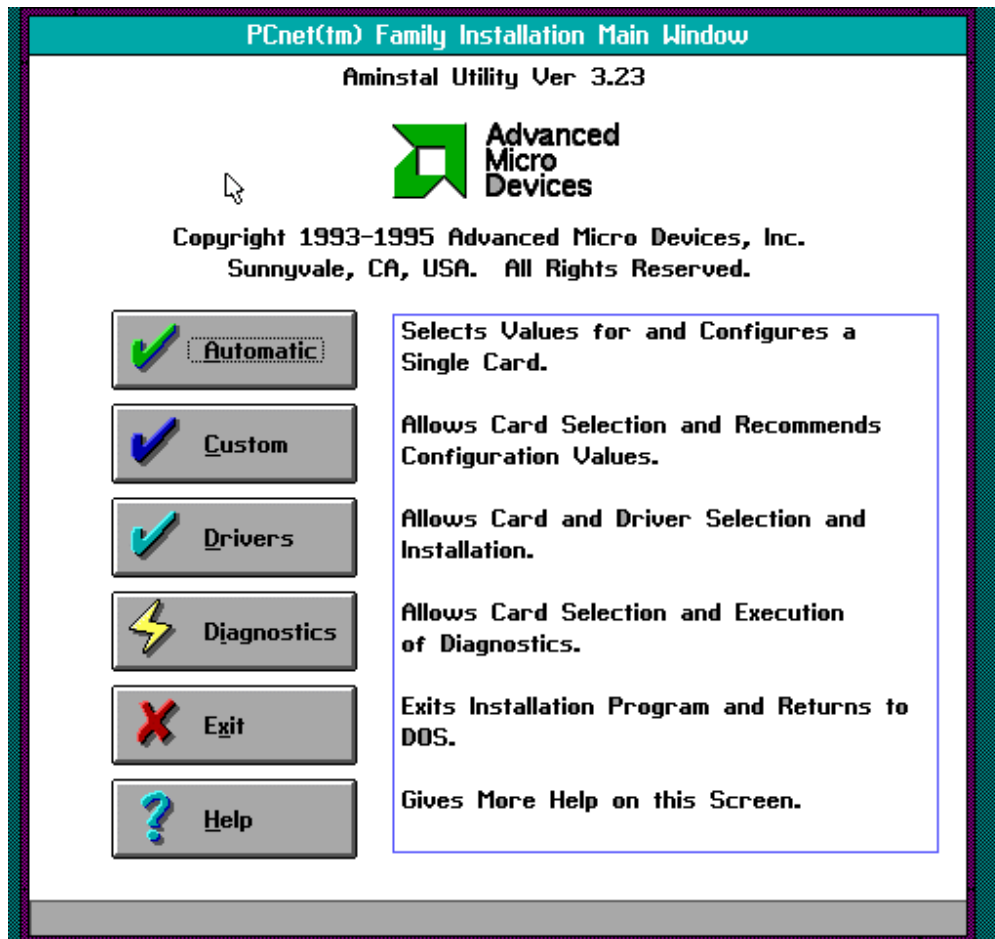

Figure 1. PCnet Family Installation Main Window
4. Follow the screens to complete the card configuration and driver installation for the PCnet adapter card. Refer to Figures 1 through 5 for sample AMINSTAL screens.